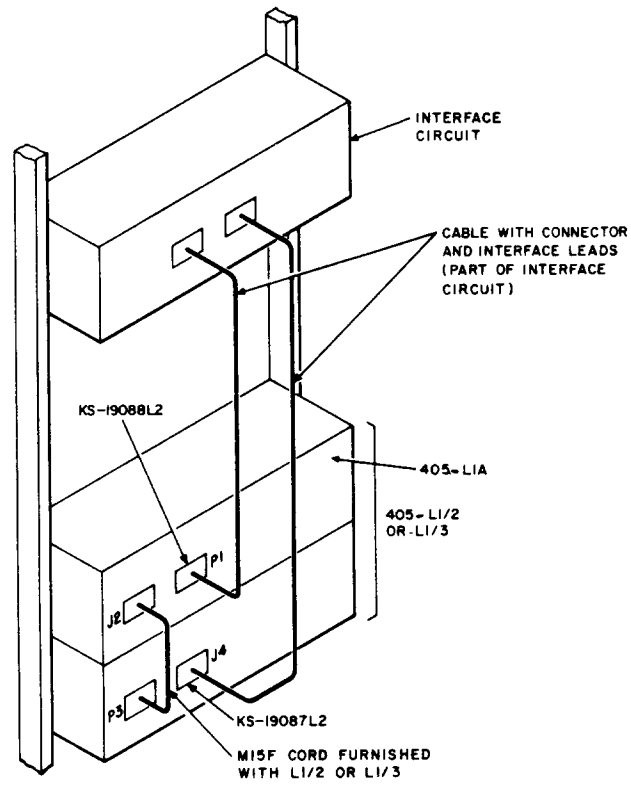

Fig. 1—405-Type Installation
**3.01** Figure 1 illustrates a typical 405-type installation with an expansion unit. When the data set is an L1/2 or an L1/3, interconnection between the data set modules (L1 and L2 or L3) is made with an M15F cord which is furnished with the L1/2 and L1/3 units. The two modules have a double size protective cover and are held together with mounting brackets to make them a single unit.